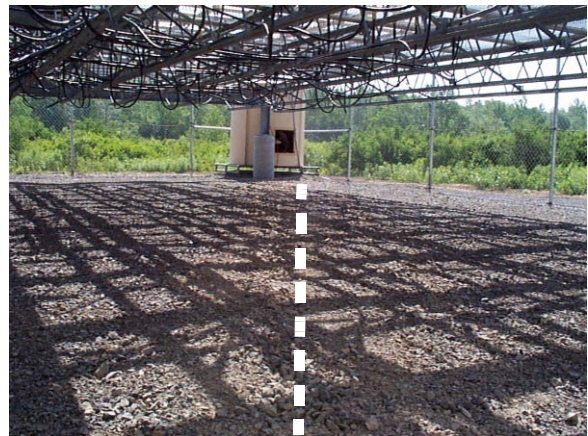

Figure 11-17 GPS Antenna Cable Routing Between Shelter and Antenna
8. The GPS antenna cable is buried in the gravel between the shelter and the fence. The trench is only inches deep (just enough to cover the cable) and always takes a direct route from the shelter to the fence, similar to route shown in Figure 11-17.